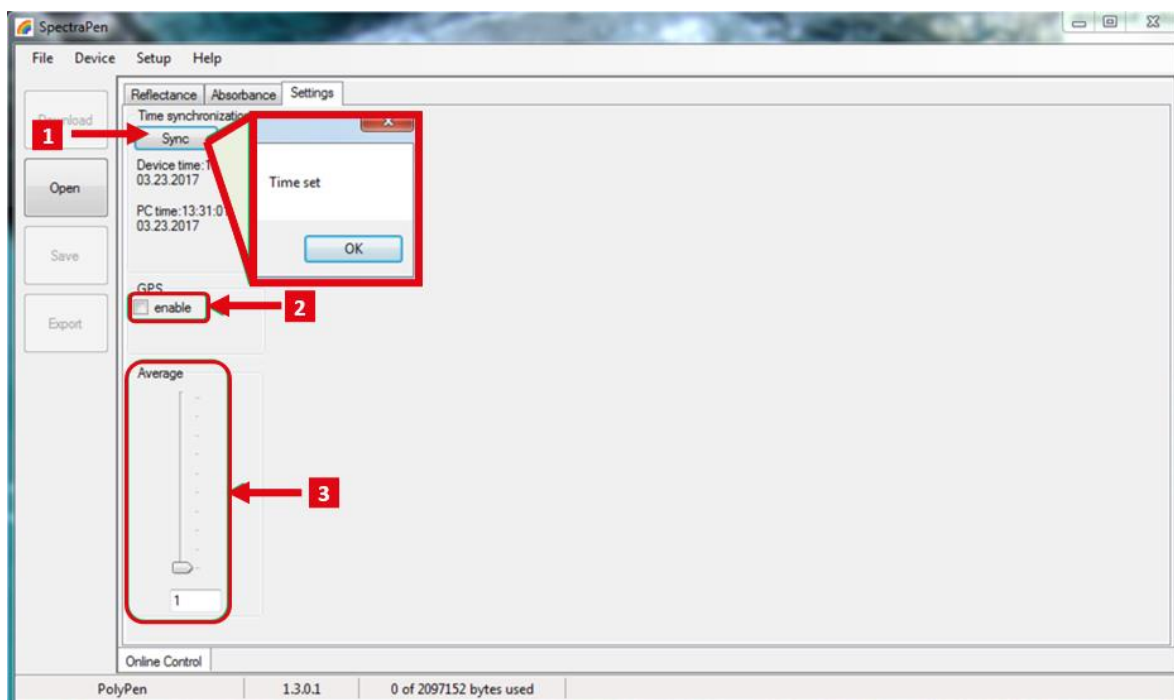

Fig. 37 Settings of online control.
Settings (Fig. 37)
- Time synchronization of the device and PC (Fig. 37 - 1)
- GPS built-in module activation (Fig. 37 – 2; more information about the GPS module in chapter 8)
- Averaging of measurement, set from 1 to 10 measurements (Fig. 37 - 3)